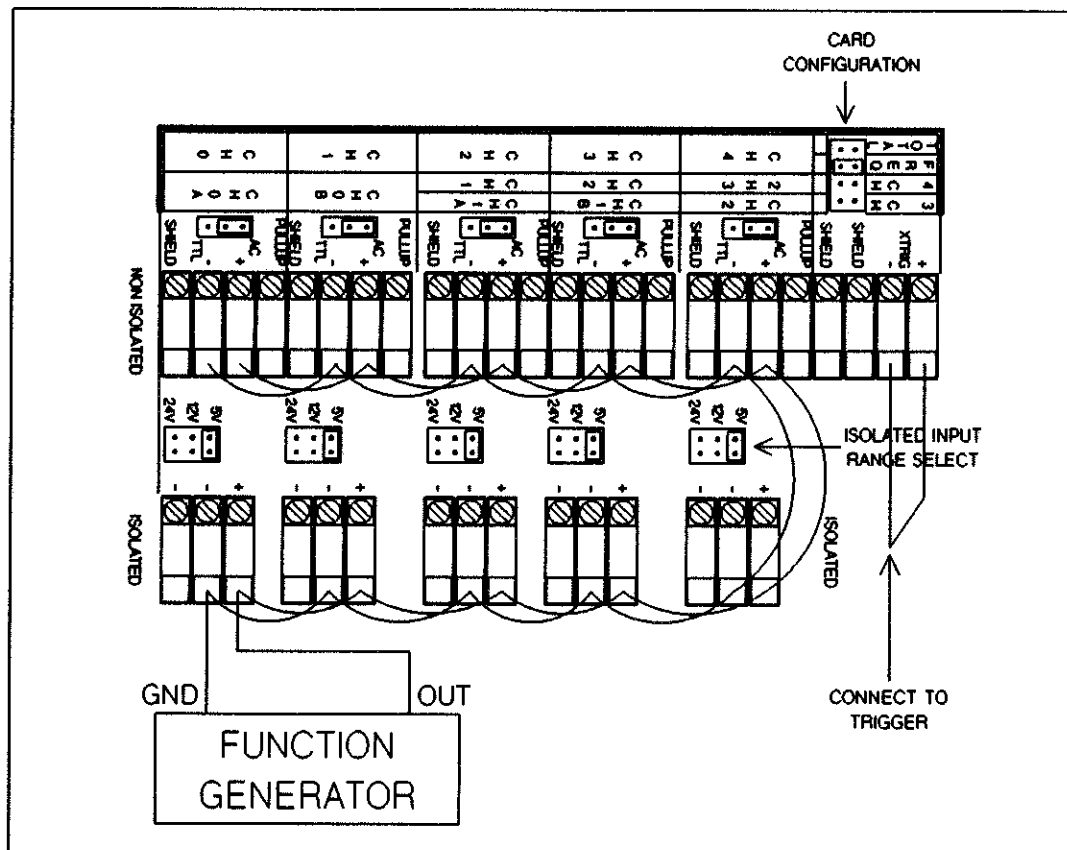

Figure 11-7 Trigger Input Test
36. Short the two wires connected to the trigger input, as shown in Figure 11-7.